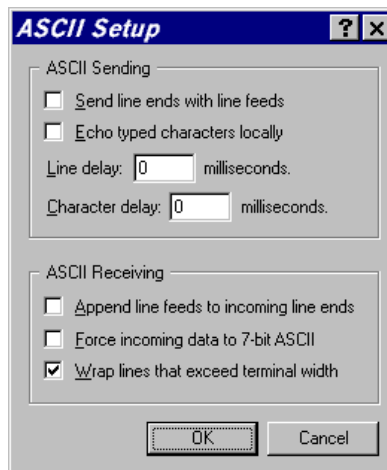

Figure 5-9: ASCII Setup Window
5. The RCP2-1000 will not normally echo back characters typed by the user in the Terminal window. For added security and convenience, it is recommended to turn on Local Echo on HyperTerminal itself. To do so, from the HyperTerminal top menu select as followed: File > Properties > Settings > ASCII setup. The resulting window is shown on **Figure 5-9**. Check the box marked “Echo typed characters locally” and click “OK.” Due to a software bug on some Windows versions this feature does not properly work even when checked. To fix the bug, download the latest version of HyperTerminal from <http://www.hilgraeve.com>. Do not use a version of Hyperterminal earlier than 6.3.